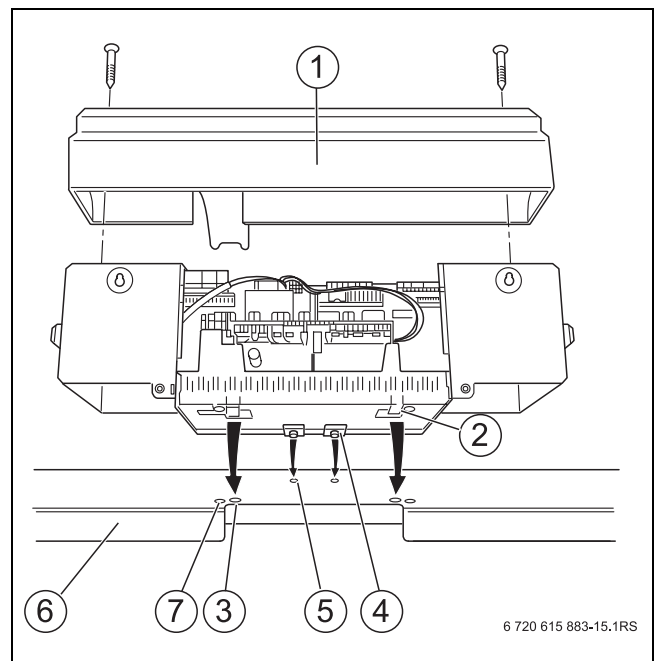

Fig. 17 Fitting the control unit
Fig. 17 shows the control unit and the front cover [1] from the back.
- ▶ Put the cover (→ Fig. 17, page 23) back on the control unit.
- ▶ Tighten screws (→ Fig. 17, page 23) to secure control unit cover.